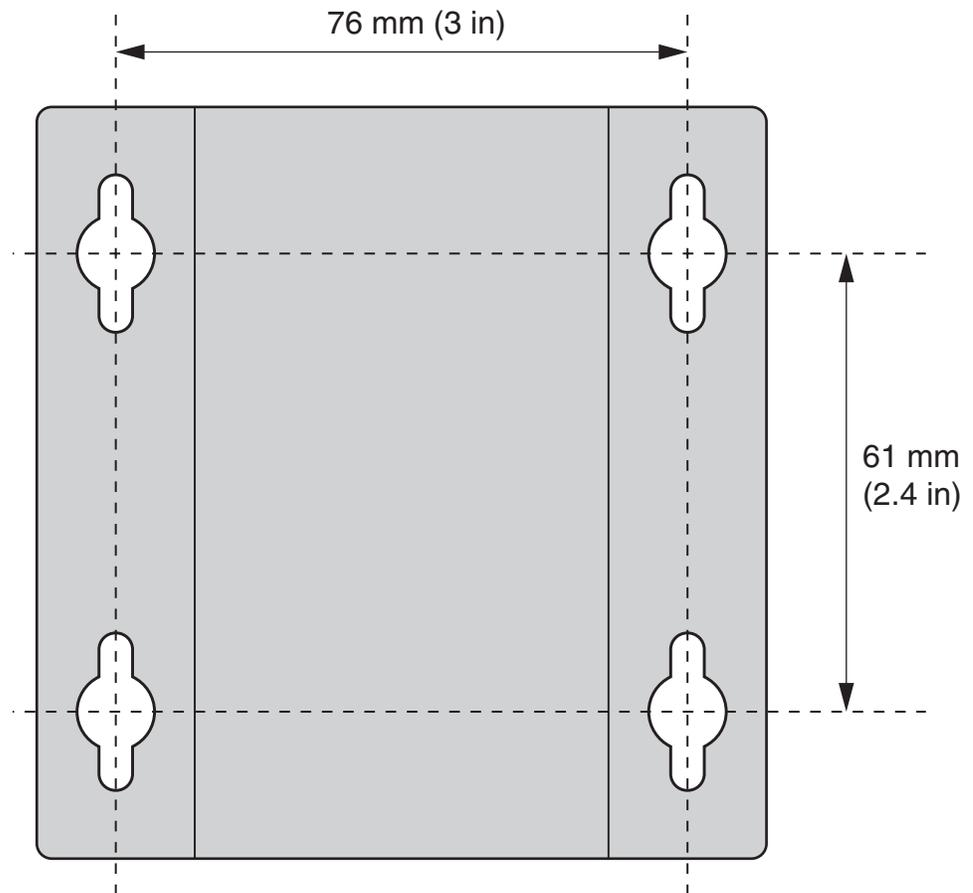

Figure 31. Wall-mount Template
5. Print out the template in Figure 31.